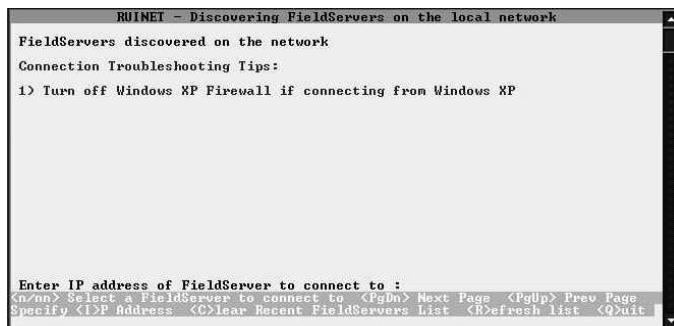

Figure 12: RUINET PT-Link Specify IP Address
4.) The following screen may appear (Figure 12). Type  for Specify IP Address and the message "Enter IP Address of the Field Server to Connect to" will appear on the screen.